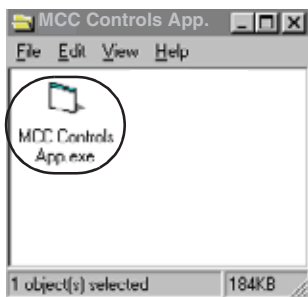

FIGURE 11
1. Click on shortcut icon **MCC Controls App**. The selected folder appears (see Figure 11).
2. Click on **MCC Controls App.exe** icon to launch program (see Figure 11).